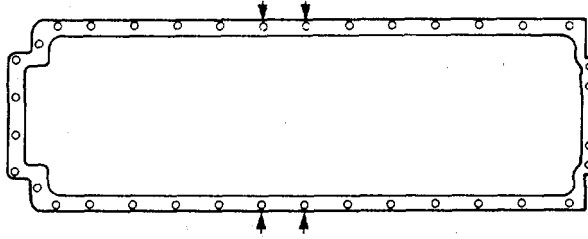

FIGURE 3-46. Middle Oil Pan Capscrews.
- (2) Tighten two capscrews on each side of the oil pan flange. Tighten the capscrews that are located halfway between the front and the rear of the oil pan (Figure 3-46).
- (3) Remove the capscrews that were installed in step d.(1) of this procedure. This is necessary to provide the clearance to perform the following step.
- (4) Install and tighten capscrews to hold the rear corners of the oil pan to the cylinder block.
- (5) Remove the guide studs and install all oil pan capscrews.
- (6) Tighten the capscrews that hold the oil pan to the cylinder block and front cover to 35 to 40 ft-lb (47 to 54 N·M) torque.